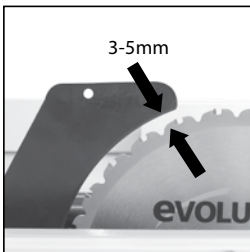

FIG. 4
- Adjust the Riving Knife so that it is between 3 - 5mm from the saw blade. (**Fig. 4**)